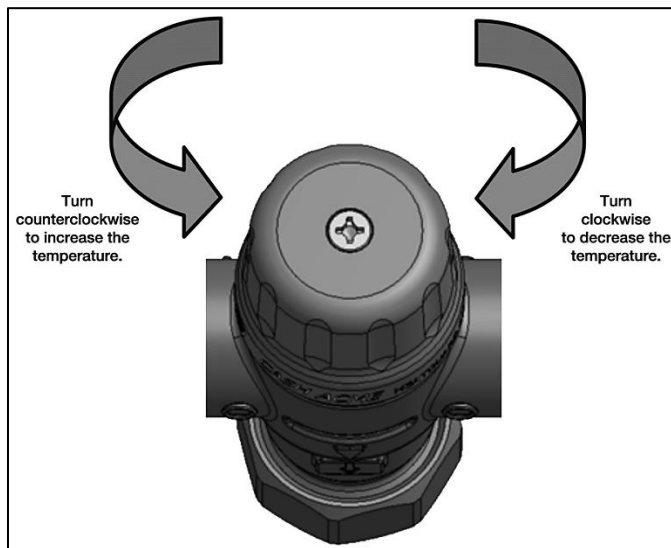

Figure 4 – Adjusting the Mixing Valve
1. Turn both the hot and cold water supplies on. Open an outlet, preferably a sink or basin faucet rather than a shower. To calibrate, let water run for 2 minutes and measure the outlet temperature with a thermometer. Adjust the green cap counter clockwise to increase temperature and clockwise to decrease temperature, as shown in Fig. 4.